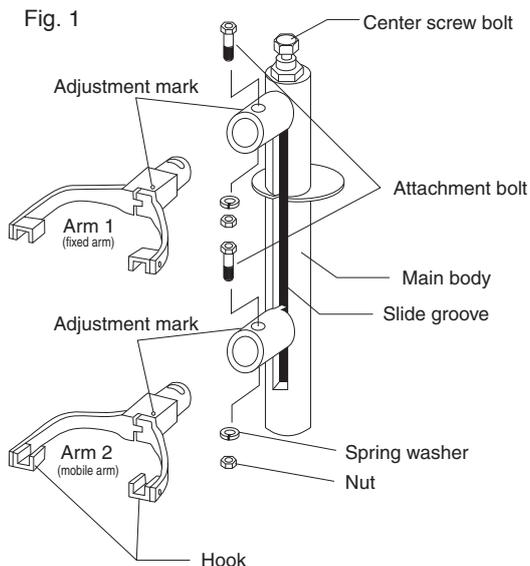

Fig.2 Coil spring
- If excessive load is applied on spring compressor, breaking mechanism will work inside the drive of center screw bolts. (Breaking load: 1,300kgs.) (Fig.2)
- ① Attach to the diameter section of the spring when attaching the hook to the spring. (Fig. 2)
- ② Set to the widest position when considering the span of the hook for the upper and lower arms. (Distance between diagram 3A and B)